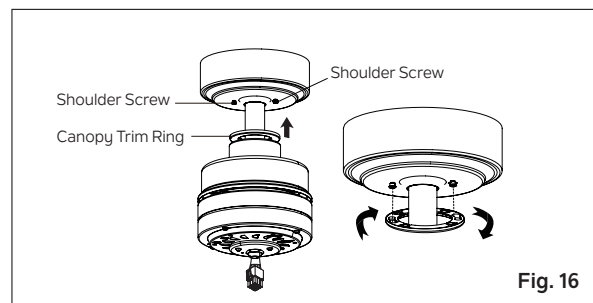

Fig. 16
Step 3. Raise the canopy trim ring to the canopy. Place the key hole slots in the canopy trim ring over the heads of the shoulder screws. Rotate the canopy trim ring (clockwise) until it locks in place against the shoulder screws (at the narrow ends of the key hole slots). (Fig. 16)
NOTE: Adjust the shoulder screws as necessary until the canopy and canopy trim ring are snug. (Fig. 16)